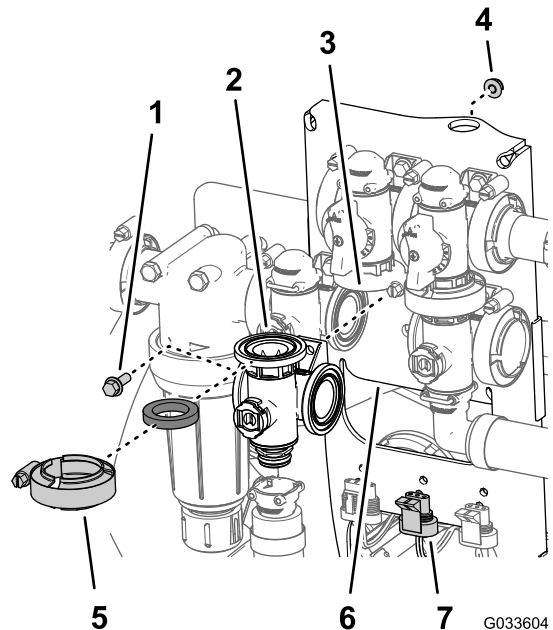

Figure 124
1. Align the flange of the agitation-valve manifold, a gasket, and the flange of the agitation bypass valve (Figure 124).
- Assemble the agitation valve to the valve mount with the flanged-head bolt and flanged locknut (Figure 124) that you removed in step 3 of Removing the Agitation Manifold Valve \(page 78\) and torque the nut and bolt to 10 to 12 N·m (90 to 110 in-lb).